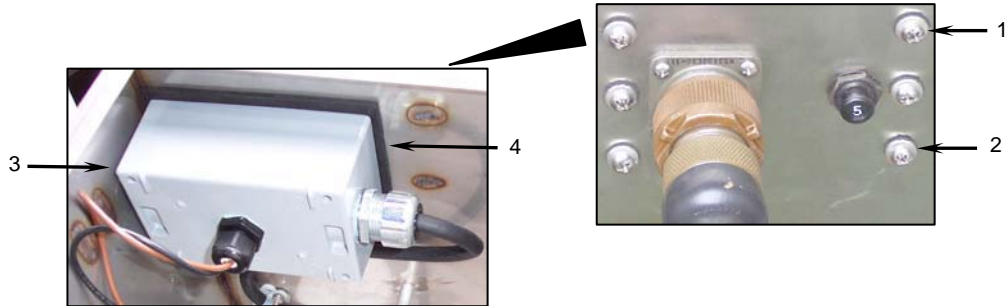

Figure 2. Removing the Grease Separator Weatherproof Box.
- c. Remove the six machine screws (**Figure 2, Item 1**) and sealing washers (**Figure 2, Item 2**) that secure the weatherproof box (**Figure 2, Item 3**) to the wall of the grease separator.
- d. Carefully pull the box away from the wall, taking care not to damage the gasket (**Figure 2, Item 4**).